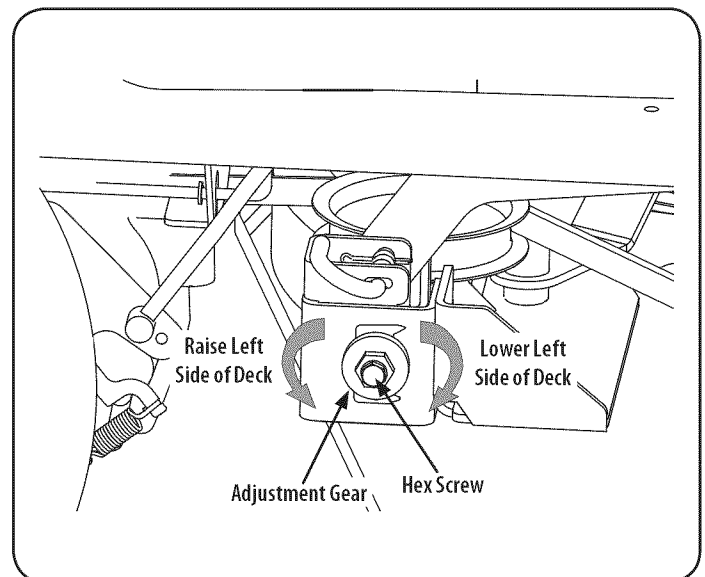

Figure 36
5. Loosen, but do not remove, the hex screw on the left deck hanger bracket. Refer to Figure 36.
- Level the deck by using a wrench to turn the adjustment gear (found immediately behind the hex screw just loosened) clockwise to lower the left side of the deck, or counterclockwise to raise the left side of the deck. See Figure 36.